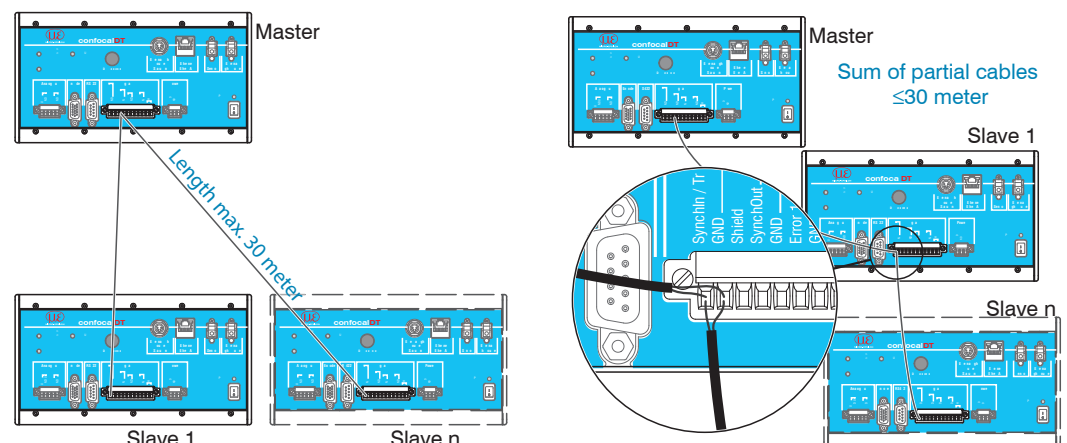

Fig. 12 Synchronization of more controllers, star synchronization (left), cascaded (right)
- ➡ Connect the SyncOut output of controller 1 (master) in star configuration with the SyncIn inputs from controller 2 (slave) to Controller n, in order to synchronize two or more controllers, see Fig. 12.
- ➡ Connect the SyncOut output of controller 1 (master) with the SyncIn inputs of controller 2 (slave 1). Connect the SyncIn inputs of downstream controllers in order to synchronize two or more controllers, see Fig. 12.